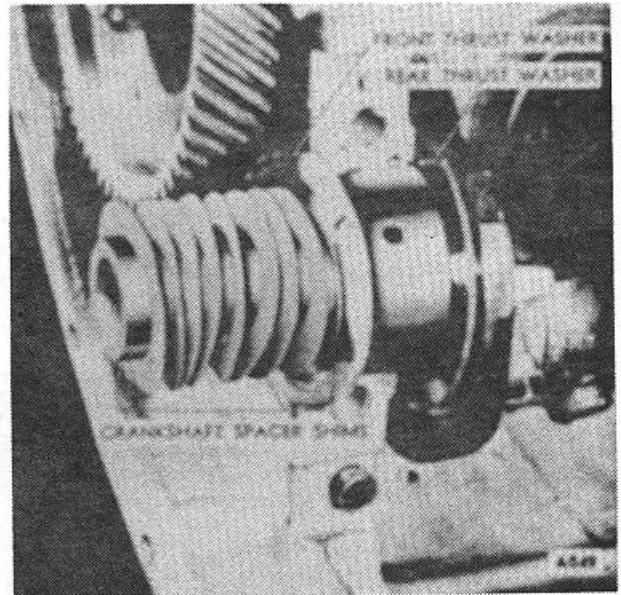

Figure 48.
8. Inspect crankshaft thrust washers (Fig. 48) for wear and scoring. Replace if necessary before reassembling gear.
**A shim pack containing shims of .002" and .008" thickness is incorporated in the assembly between the front end of the main bearing journal and crankshaft gear. (Fig. 48) Removal or addition of shims will bring the end play to correct specifications.**